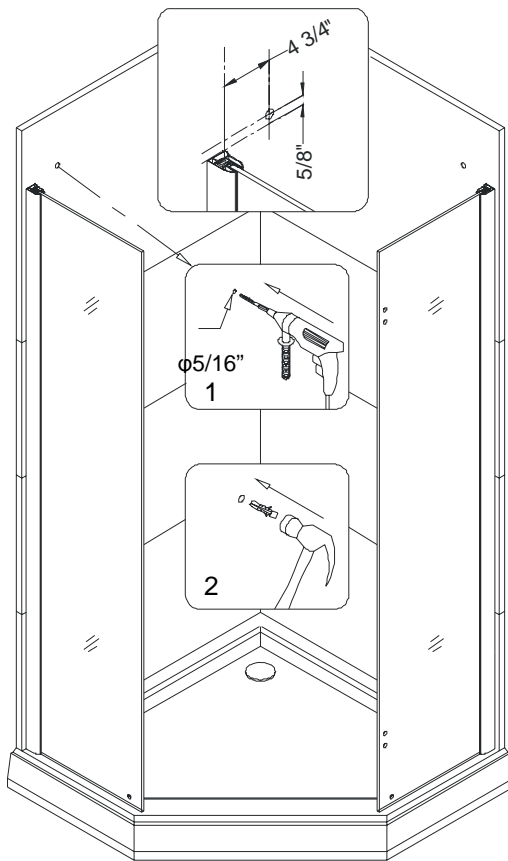
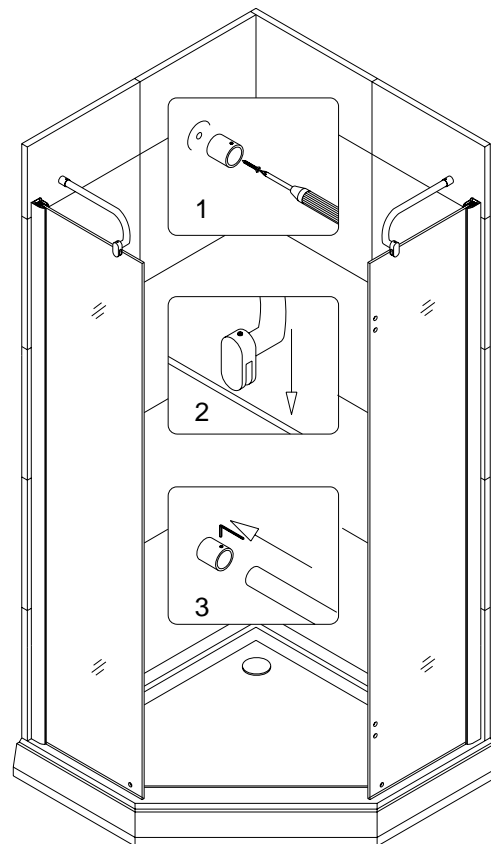

Fig 3
Fig 4
4. Locate the **Support Bar (06)** from the package. Drill the hole for the bracket on the wall according to the measurements given in Fig.3. Insert the wall anchor and secure the bracket to the wall with the **Screw ST4.2x30 (12)**. Place the **Support bar** with channel on the glass and insert the other end into the bracket. Tighten the set-screws provided at both ends. Do not fasten them very tight as you may need to perform some adjustment at a later time. See Fig.3 and Fig.4 for details.